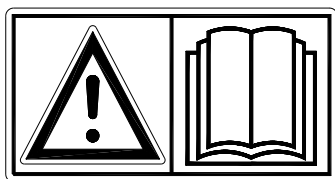

Fig. 1
**Read and understand** (Fig. 1) the manual before starting to use the Speedseed. Not using the machine as described in the manual may lead to injury and/or damage to the Speedseed.
- (1) The Speedseed is solely intended for tilling lawns or areas where grass should grow.